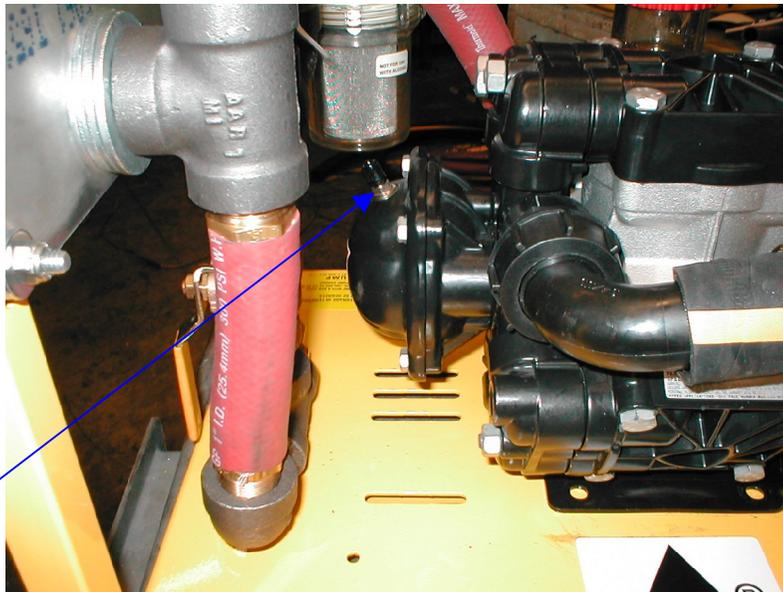

Figure 1 Pulsation Dampener. Remove cap and use tire gauge or other gauge to check pressure. Add or remove pressure as needed.
2. Check charge pressure on the pulsation dampener (see Figure 1). The pressure should be approximately 20% of the maximum test pressure. i.e. 100 PSI should be 20 PSI; 150 PSI-30 PSI; 200 PSI-40 PSI etc.